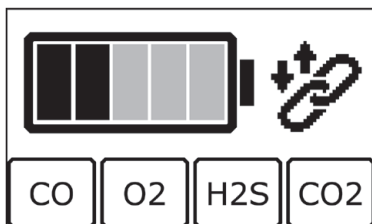

Fig. 15: Device in charging mode
- The device switches to charging mode (fig. 15).